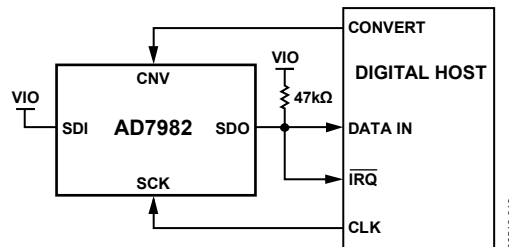
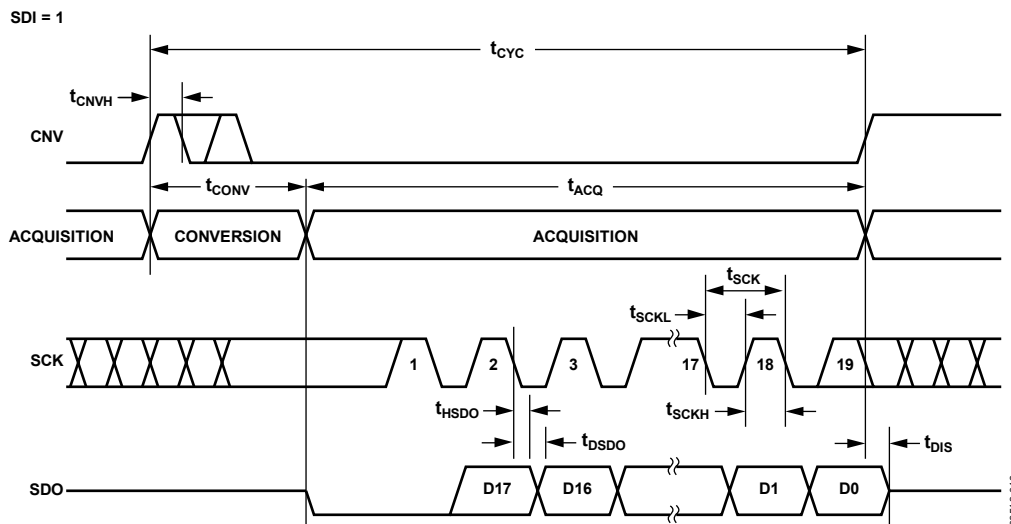
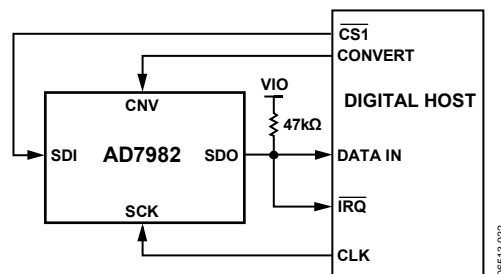
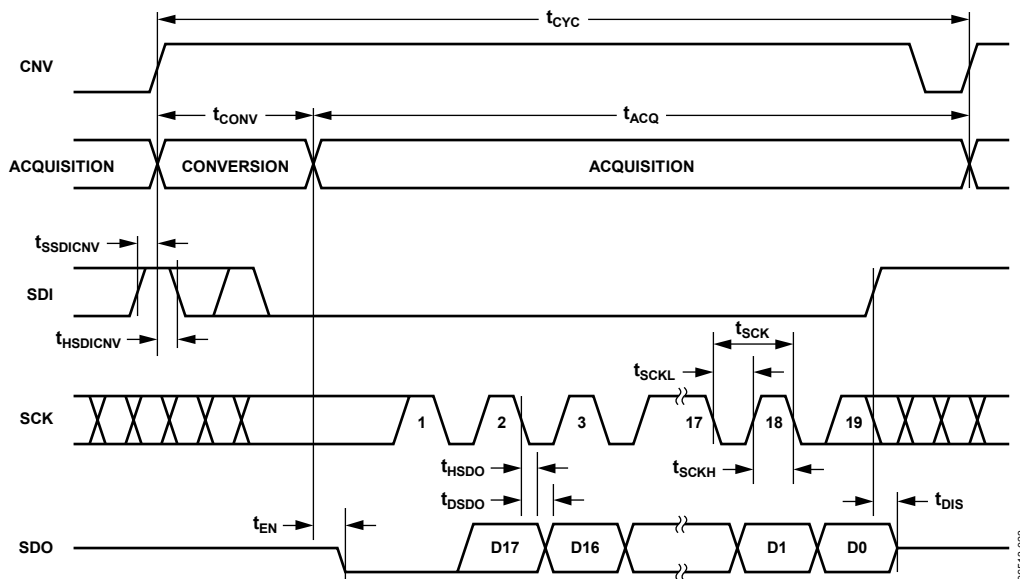

Figure 31. $\overline{\text{CS}}$ Mode, 3-Wire with Busy Indicator Connection Diagram (SDI High)
Figure 32. $\overline{\text{CS}}$ Mode, 3-Wire with Busy Indicator Serial Interface Timing (SDI High)
Figure 35. CS Mode, 4-Wire with Busy Indicator Connection Diagram
Figure 36. CS Mode, 4-Wire with Busy Indicator Serial Interface Timing
- In the \overline{CS} mode if CNV or SDI is low when the ADC conversion ends (Figure 32 and Figure 36).
The connection diagram is shown in Figure 31, and the corresponding timing is given in Figure 32.
The connection diagram is shown in Figure 35, and the corresponding timing is given in Figure 36.